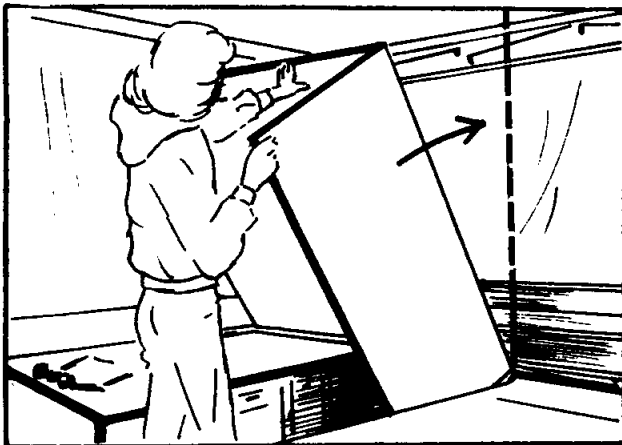

FIGURE 20
26. Disconnect wall latch and raise wall unit as shown in Figure 20 taking particular care not to pinch the drapes or drapery rods between the bathroom wall and trailer top assembly.